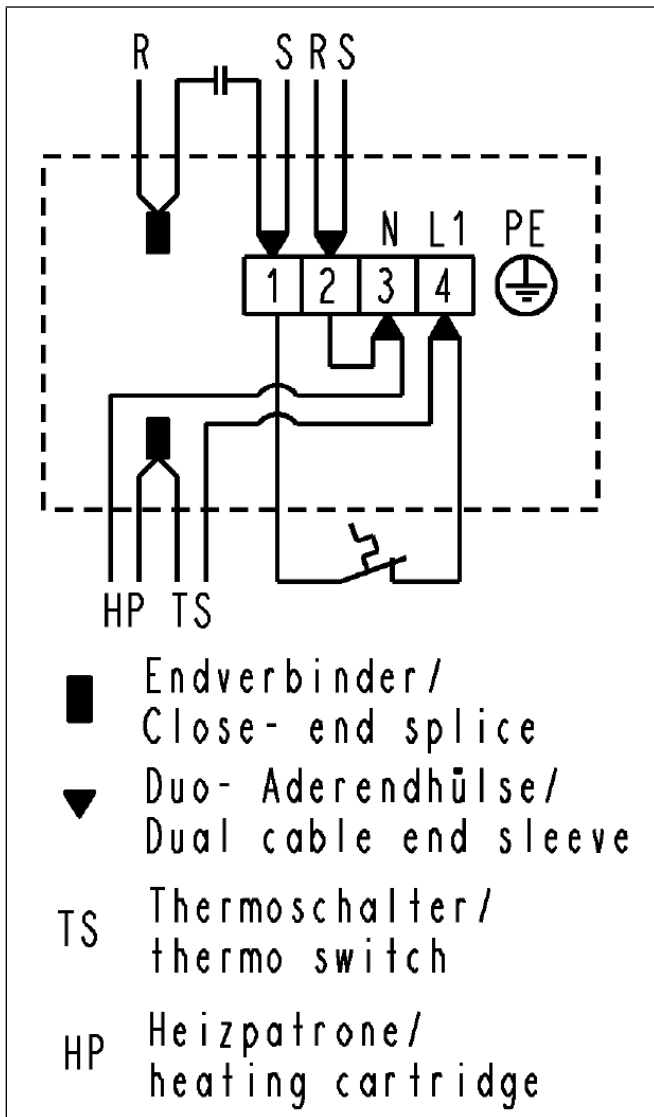

Fig.7: Electrical connection of .11 version
5. Connect the power cable to the L 1 and N connections of the terminal blocks (see Fig. 7).